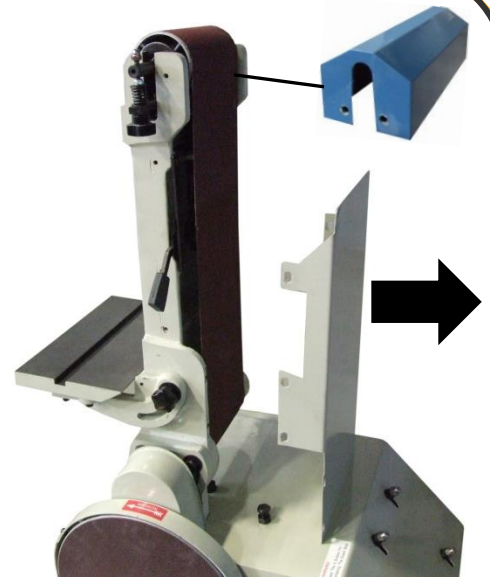

figure 6
2. Take off the bottom cover by removing (8) screws, and the top end cover held on with (4) screws. (see fig. 6)